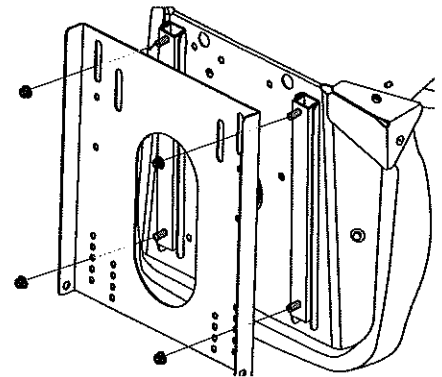

Figure 2-10
2. Using the four provided bolts (a), install the seat onto the seat pan. Place the screws (b) on the front of the seat through the middle hole in the seat pan (c) as shown in Figure 2-10. Securely tighten the seat to the seat pan.